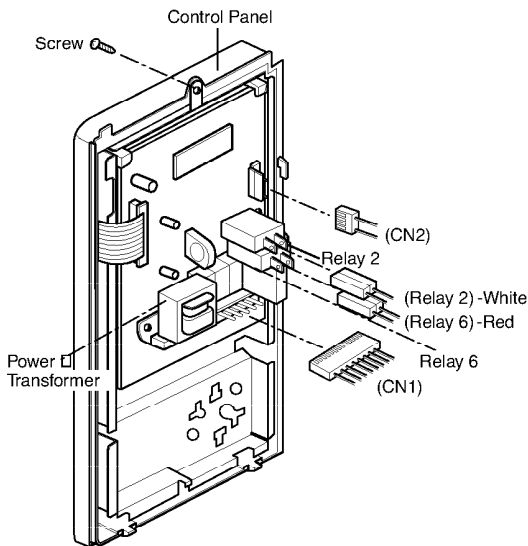

Figure 1
A. REMOVING POWER AND CONTROL CIRCUIT BOARD (Figures 1, 2 and 3)
- (1) Remove a screw securing the control panel assembly to the oven cavity.
- (2) Remove the control panel with pushing it upward.
- (3) Remove the three connectors (CN1, CN2) and wire leads (Relay2 and Relay6) from the circuit board.